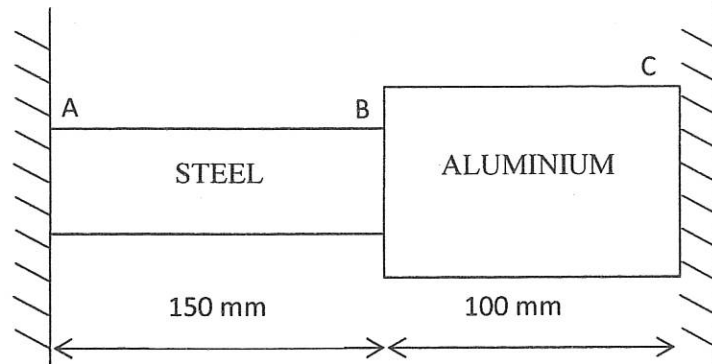

Figure 1(c) / Rajah 1(c)
- (c) The Figure 1(c) shows a compound bar rigidly mounted on each end. Calculate the stress that occurs in every bar if the temperature is lowered to 50°C .